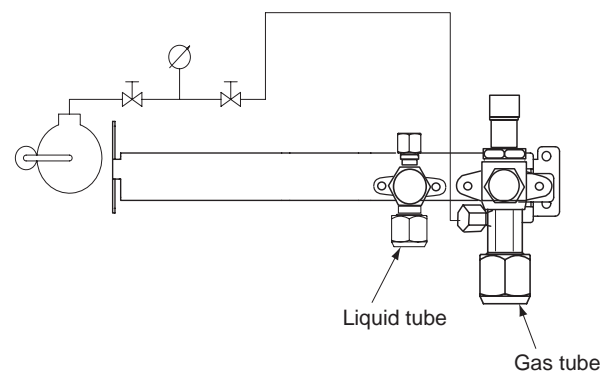

Fig. 7-2
6. Both the gas and liquid tube service valves are open. If not, open them now. (Fig. 7-2)